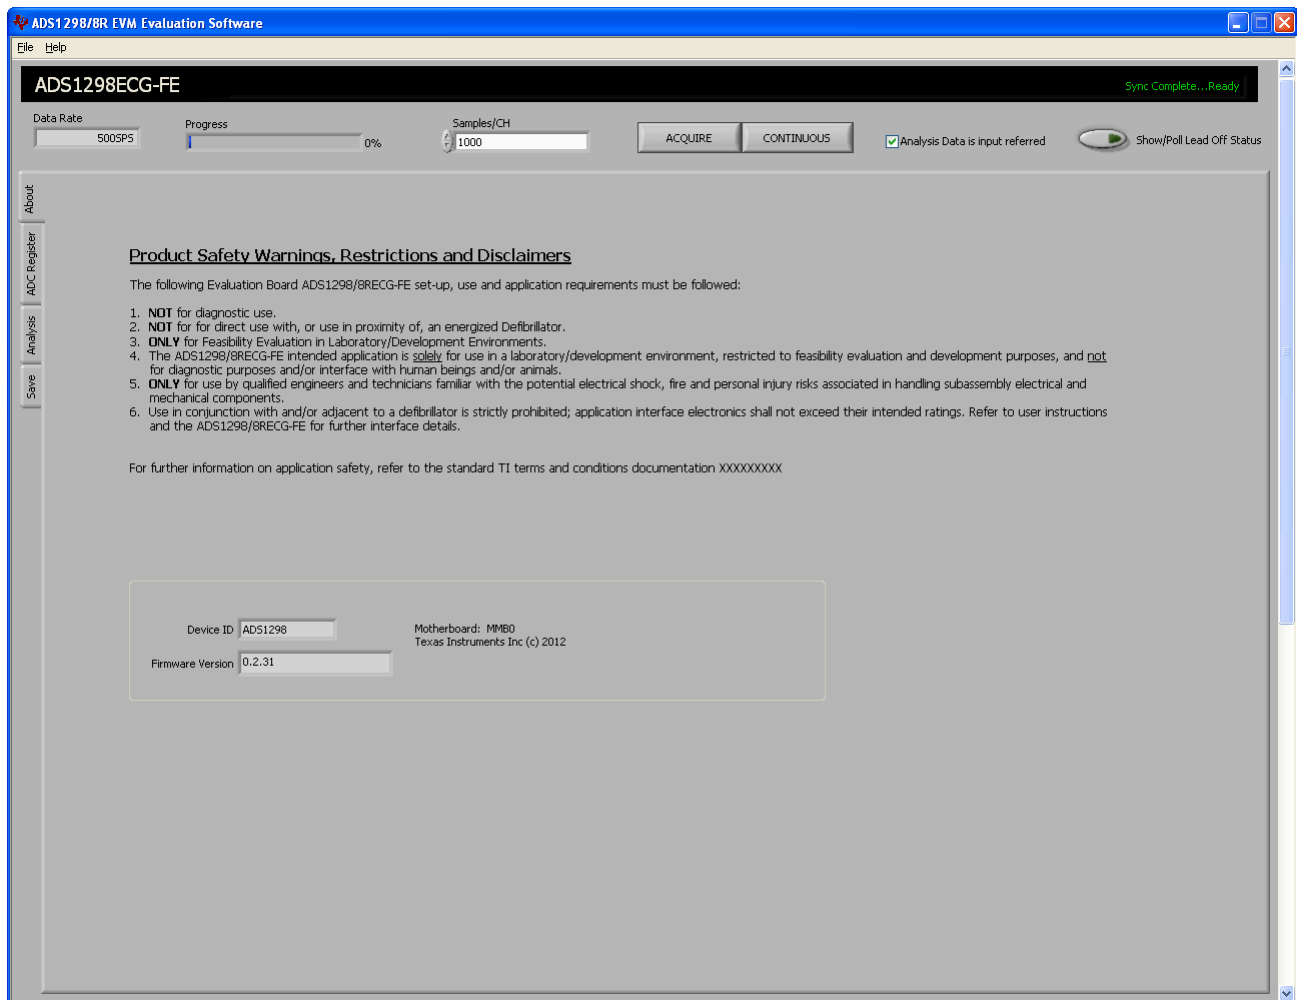

Figure 3. Software Start Screen/About Tab
The ADS1298ECG-FE software provides complete control over all the settings of the ADS1298. By using the user interface (UI), the ADS1298 control registers can be manipulated to evaluate the various options available on the device. Figure 3 shows the starting UI screen of the software. The UI consists of a user menu (Section 3.1), a few top-level controls (Section 3.2), and a tabbed interface, with different functions available on the different tabs. The tabs are:
The *About* tab provides software information to the user. Important safety warning, restrictions, and disclaimers for the software and hardware are shown and should be followed during the evaluation of this product. Additional indicators are present to provide device information (**Device ID** and **Rev**) and software information (**Firmware Version**). The *About* tab should be the first screen displayed at startup (see Figure 3).